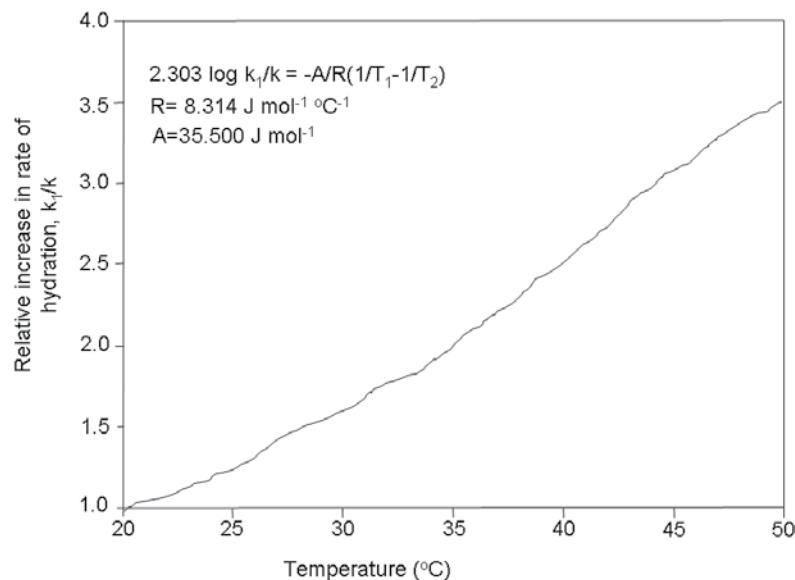

Fig. 1: Effect of temperature on the rate of hydration (Rixom and Mailvaganam 1999)
**W**hen concrete is cast, a retarding admixture is often used to keep the mixture workable until finishing is completed. This seems most common with concrete used in flooring applications where more finishing time is required. If concrete is being used a considerable distance from the ready mix plant, or the ambient temperature at the construction site is very warm, these are good reasons to use a retarder. Even at normal or lower temperatures, concrete loses its workability with time. A retarder can be dosed at a specific amount depending on the extended time of setting that is required to give some flexibility to the operation. As seen in Fig. 1, temperature has a very significant effect on the rate of cement hydration.